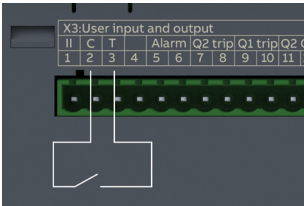

Figure 3.7 OTM_C21D_N Remote Testing Connection
1. Connect the remote test signal between X3: 2 and 3 as shown in Figure 3.7.